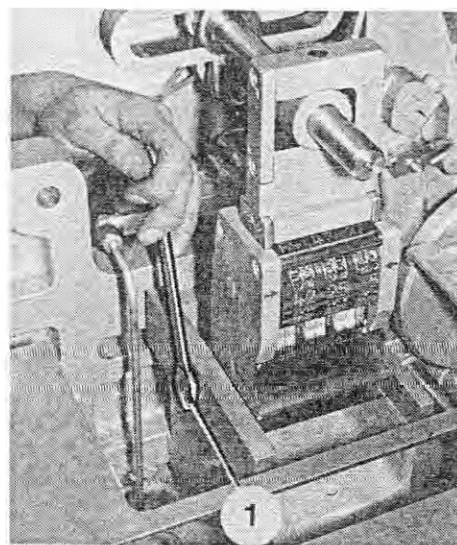

Fig. 233
1. To laterally adjust the perforating facility, loosen the clamping screw (Figure 233/1) and relocate the perforating facility appropriately. Tighten the clamping screw.